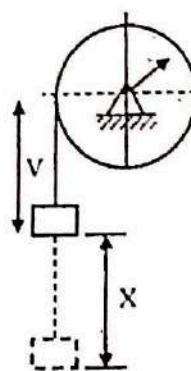

Fig: 1.1
4. Determine velocity  $V$  of the falling weight  $W$  of the system as shown in Fig: 1.1 as a function of its displacement from the initial position of rest. Assume weight of the cylinder as  $2W$ .